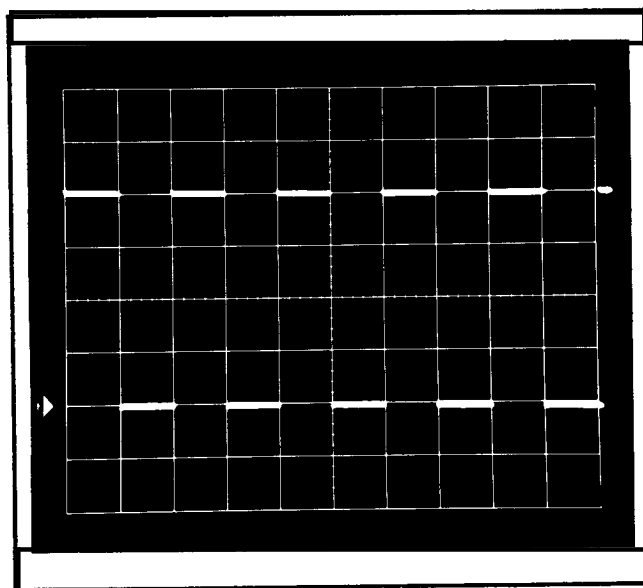

Fig. 2-1. 40 mV Calibrator square wave.
9. Check the display for four divisions of vertical deflection (see Fig. 2-1). If necessary, adjust the front panel GAIN control for four divisions of deflection.